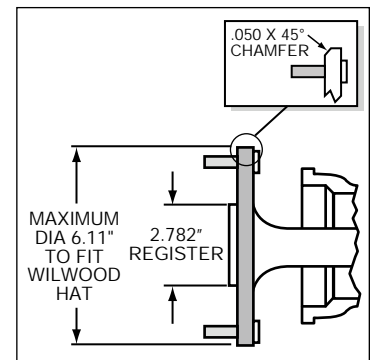

Figure 2. Axle Flange Maximum Dimension
- Maximum axle flange diameter must be no larger than 6.11" w/.050" x 45° chamfer, Figure 2.